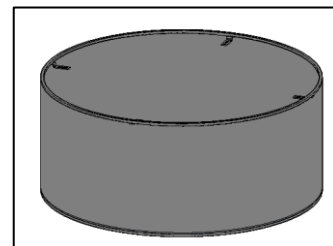

FIG. 10 - FABRIC SHADE
8. FABRIC SHADE (shown in FIG. 10)